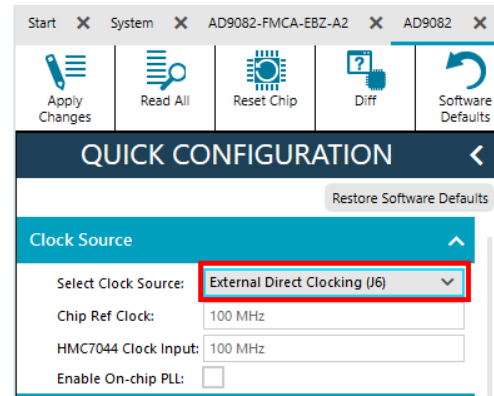

Figure 23. Selecting the Clock Source in Chip View
5. Open the chip view. In the **QUICK CONFIGURATION** pane, select the clock source to be **External Direct Clocking (J6)**, as shown in Figure 23.